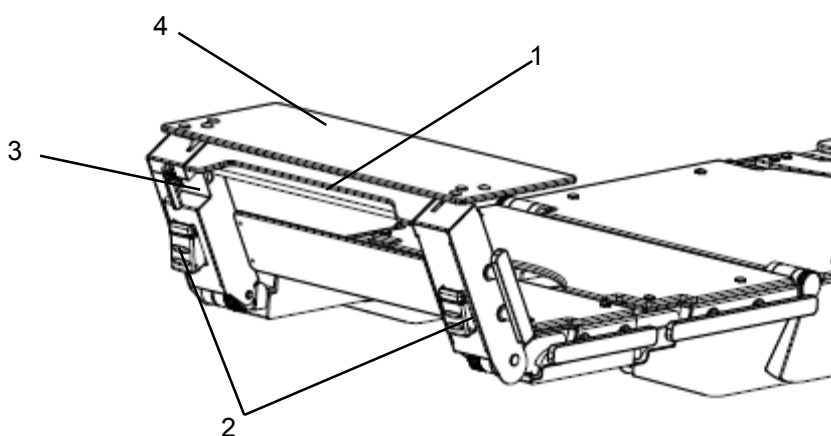

Figure 2-37 Adjusting the dual-joint head plate
1. As Figure 2-37 shows, hold the dual-joint head plate with both hands (palms up) and pull the release bracket (1) outward with fingers.
5. Pull the release button (3) with one hand and raise or lower the upper plate (4) to the desired position with the other hand.
6. Release the upper plate (4) and the release button (3).